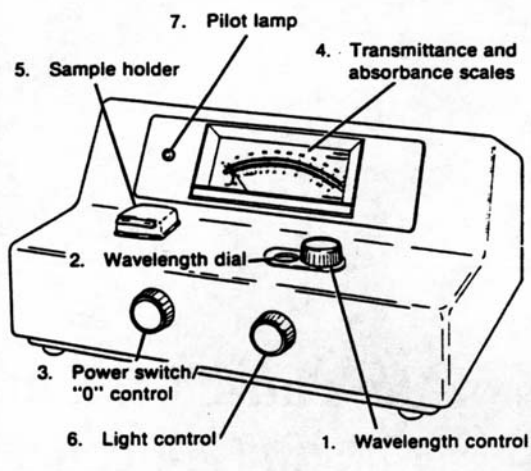

FIG. B-2. Controls on the Spectronic 20 colorimeter.
1. Rotate the wavelength control (1) shown in Fig. B-2 until the desired wavelength is shown on the wavelength dial (2). The wavelength for a given substance can be found by referring to the literature or by determining it experimentally.
2. Turn the instrument on by rotating the "0" control (3) in a clockwise direction. Allow 5 minutes for the instrument to warm up.
3. Adjust the "0" control with the cover of the sample holder closed (5) until the needle is at 0 on the transmittance scale (4).
5. Rotate the light control (6) so that the needle is at 100 on the transmittance scale (0.0 absorbance). This control regulates the amount of light passing through the second slit to the phototube.